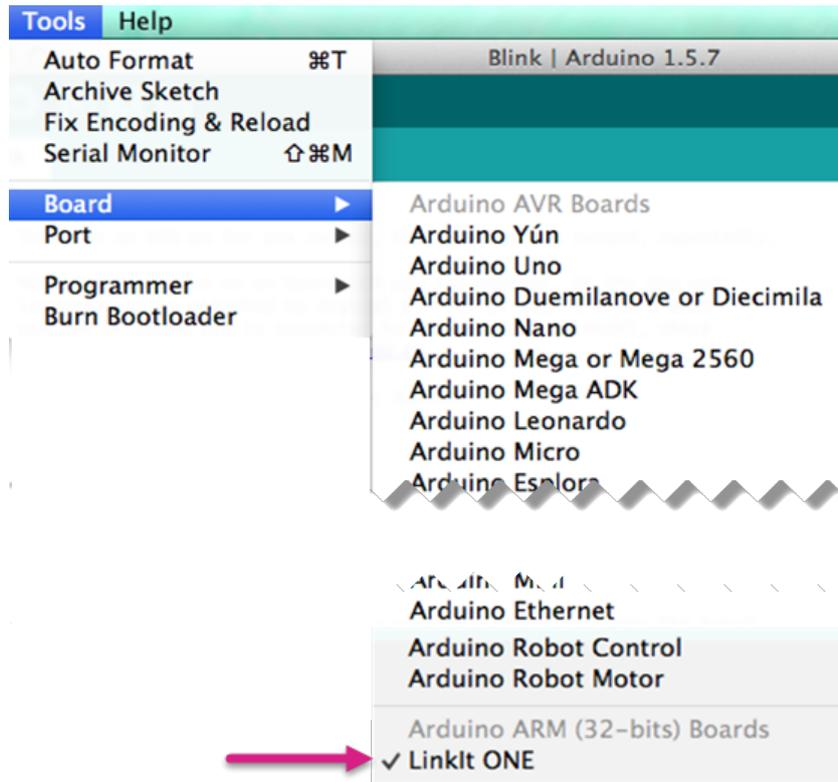

Figure 13 The menu option for configuring the LinkIt ONE development board on Mac OS X
- In the Arduino IDE, on the **Tools** menu point to **Board** and click **LinkIt ONE** as a target, as in Figure 13.